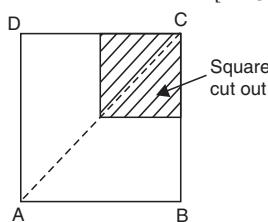

Fig. 7.47
5. A square sheet of metal has a square of one quarter of the original area cut from one corner as shown in Fig. 7.47. Calculate the position of the c.g. of the remaining portion of the sheet.